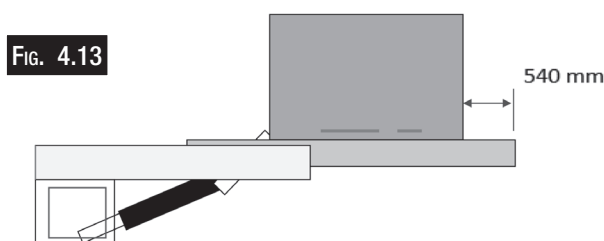

FIG. 4.13
2. Set up table as shown in Fig.4.13, 14. On the RH side of table the slide assembly is to be 540mm from the RH side of machine Base.